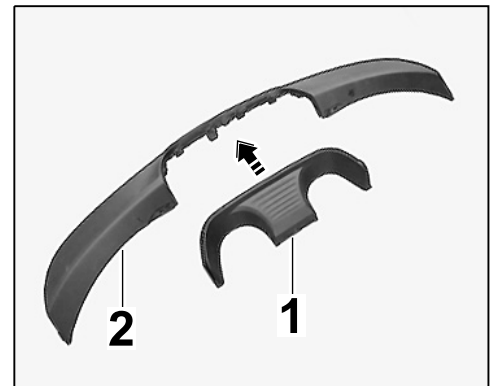

Figure 31
7.3 Clip tailpipe cover ⇒ *Figure 31 -1-* into the rear skirt ⇒ *Figure 31 -2-*.